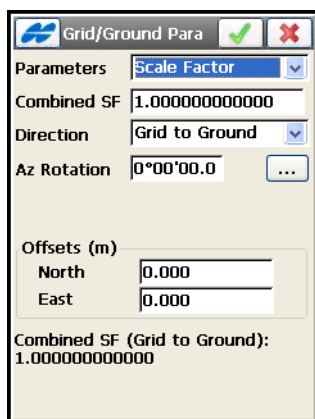

Figure 4-94. Grid to/from Ground - Scale Factor
1. Check and enable the *Use Grid/Ground* box on the **Coordinate System** screen, then tap the  button. The Grid/Ground Parameters screen displays (see Figure 4-94 on page 4-74). Select either *Scale Factor*, *Average Job Height*, or *Origin Point* mode from the *Parameters* field to set up a desired set of *grid/ground* parameters.